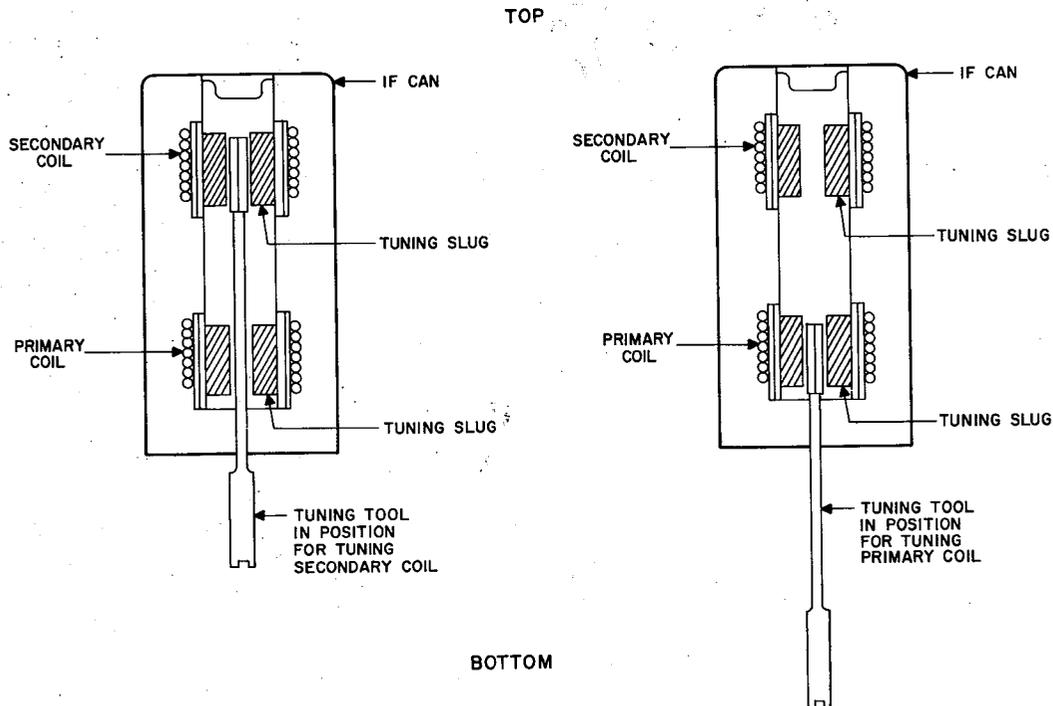

Figure 5-3. Tuning Slug Arrangement
c. Using the tuning tool supplied with the 427D-1 (clipped inside the chassis), tune both the primary and secondary of T1 for maximum avc reading on the vtm. Refer to figure 5-3 for tuning slug arrangement.
top and bottom of the slug containers. Each slug in the undercoupled transformer, T101, should be approximately 1/8 inch from the top and bottom of the container. When observing the 427D-1 unit from the bottom, the primary slug is located in a tube plate circuit, and the secondary slug is located in a grid circuit. A tuning tool is supplied with the 427D-1 unit (clipped inside chassis). All tuning is done from the bottom of the unit unless otherwise indicated. (See figure 5-3.)
By using a secondary to primary order of tuning, the tuning tool is worked out of the transformers in a manner such that the slugs already tuned will not be disturbed. (See figure 5-3.)